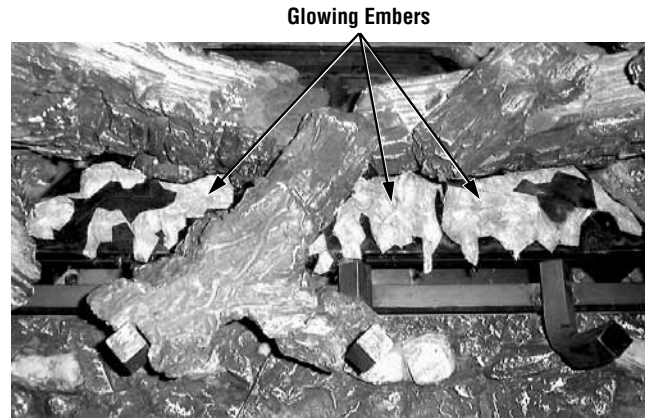

Figure 6
Step 3. Separate the Glowing Ember (Rockwool) into pieces about the size of a quarter (**Figure 5**). Keep the pieces fluffed up, not matted. Distribute these pieces over the front surface of the burner, as shown in **Figure 6**. Do not use more than is necessary. When properly positioned, the Glowing Embers will cover approximately 65% of the front burner and with no appreciable gaps or openings. Ensure that the main burner ports remain uncovered by the ember material.